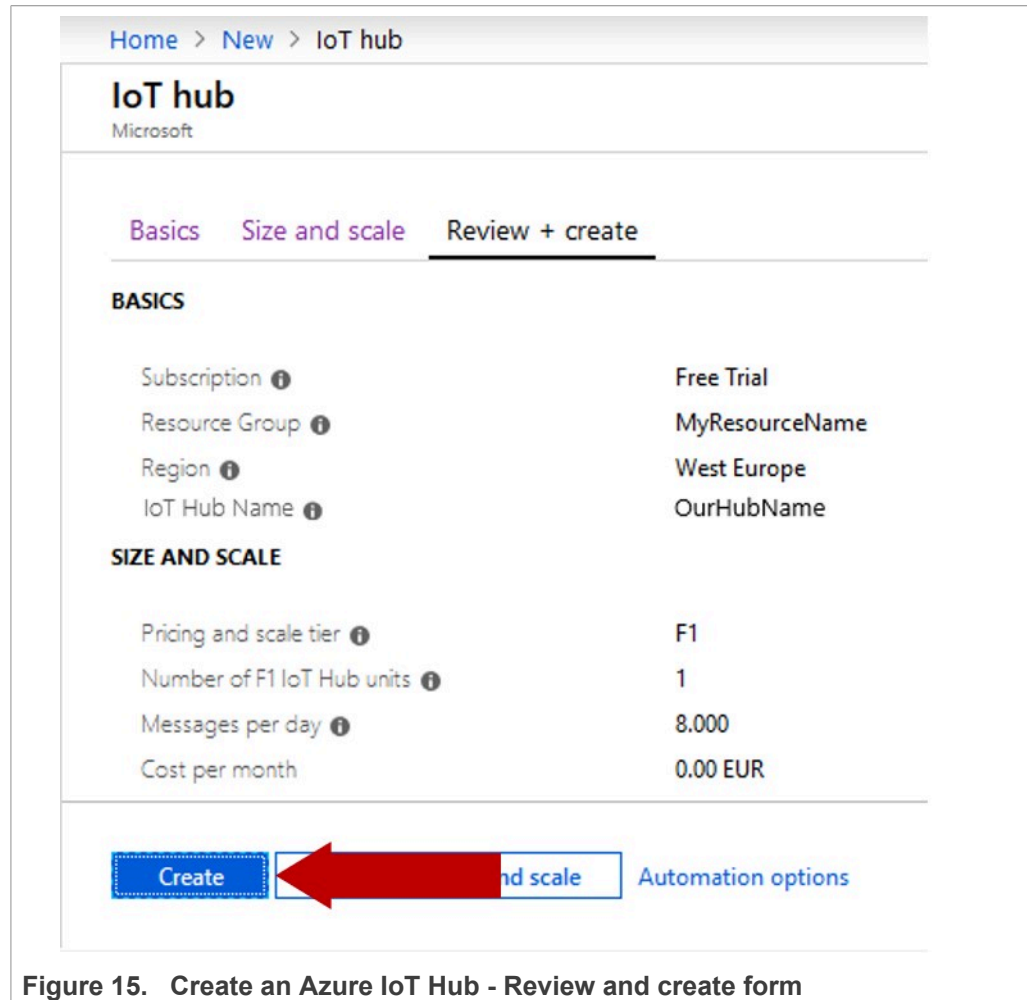

Figure 15. Create an Azure IoT Hub - Review and create form
- On the **Review+create** tab, click **Create** to confirm the Azure IoT Hub creation as shown in Figure 15. You might need to wait a few minutes until your deployment is ready: